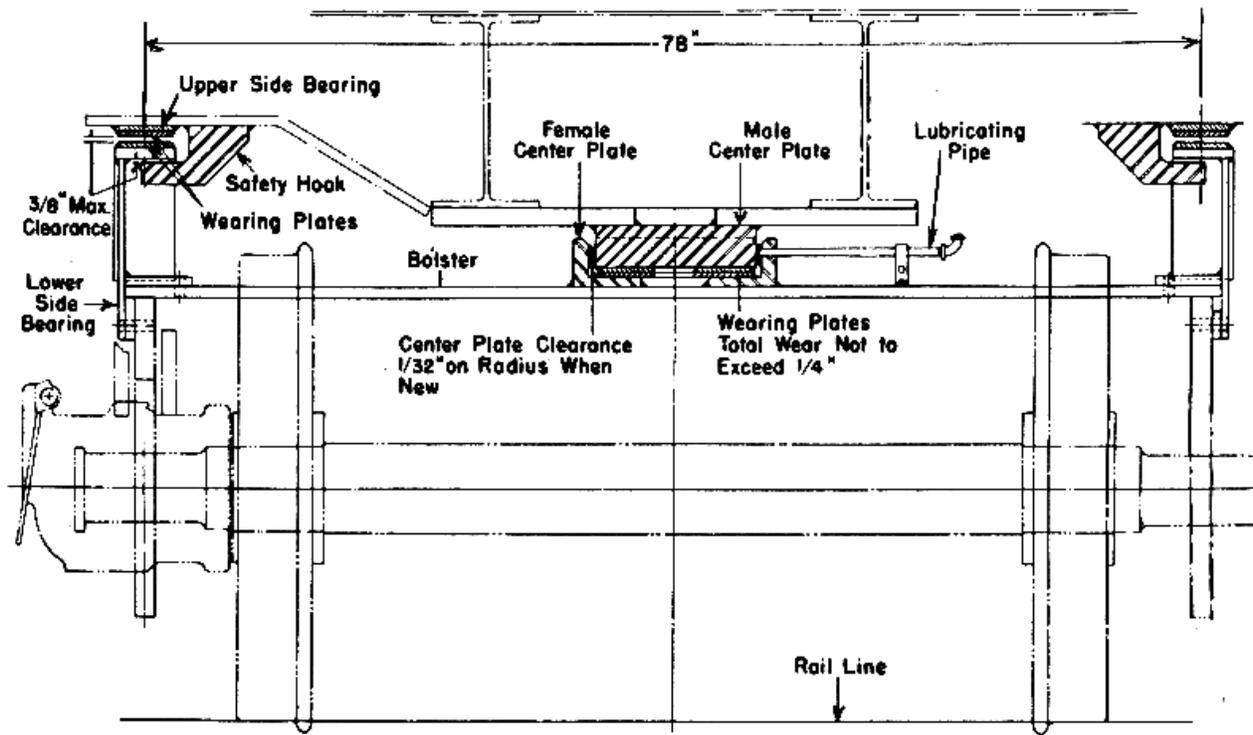

Figure 41. Typical center and side bearings, sectional view.
a. Description. Side bearings are used on swivel truck locomotives between the cab underframe and the trucks to limit the tilt of the cab with respect to the trucks. This locomotive has renewable wear plates of high-carbon steel (SAE 1045) on the underside of the platform only, as rollers are mounted on the top of the truck bolsters. (fig. 41.)